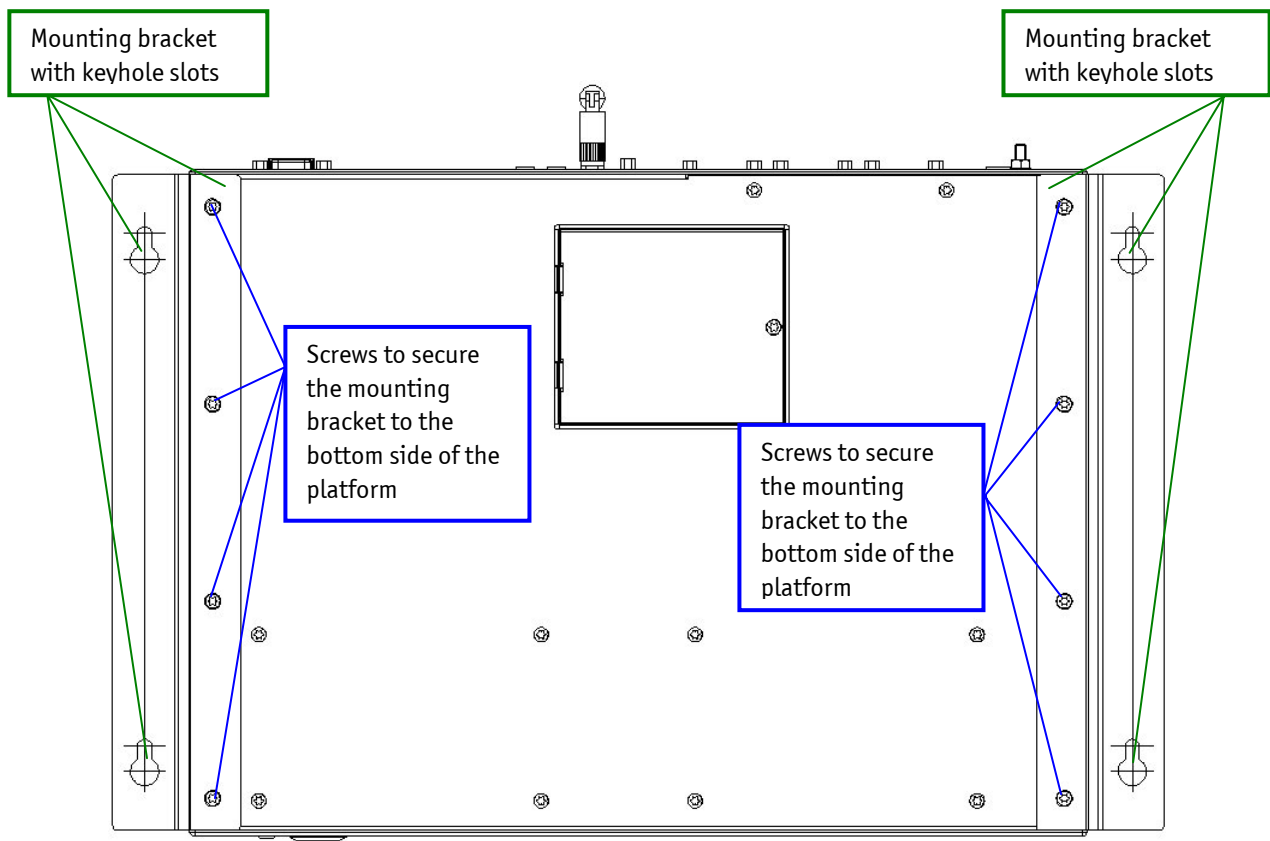

Fig. 31: Bottom side with attached mounting brackets (the side with interfaces is upward mounted)
If you attempt to mount the CB 753 to a table or to a wall, attach to the system only the brackets (option) with the screws (Fig. 18, pos. 3). Refer also to Fig. 31.
5. Position the mounting brackets to the corresponding side and align the mounting points. Use the retained screws (step 3) and tighten them in order to secure the bracket to each side of the CB 753 platform (refer to Fig. 31).